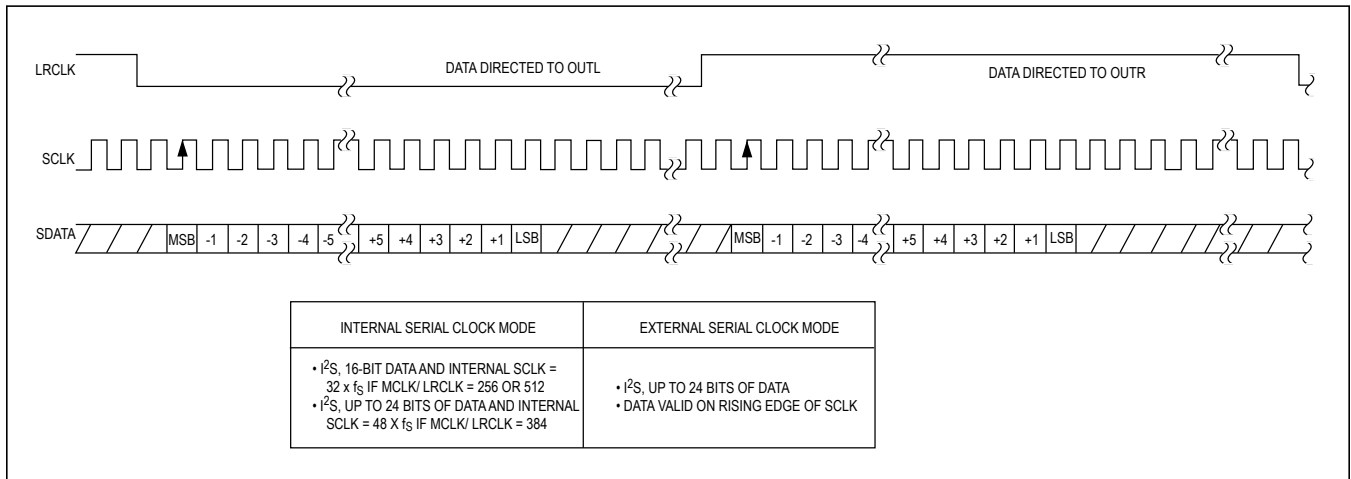

Figure 4. MAX5556 Data Format Timing
- Note 6:** In external SCLK mode, LRCLK duty cycles are not limited, provided all data formatting requirements are met. See Figure 4.
- Note 8:** The SCLK/LRCLK ratio can be set to 32, 48, or 64, depending on the MCLK/LRCLK ratio selected. See Figure 4.
The serial interface strobcs data (SDATA) in on the rising edge of SCLK, MSB first. The MAX5556 supports four different data formats, as detailed in Figure 4.
LRCLK is the left/right clock input signal for the 3-wire interface and sets the sample frequency (f_S). On the MAX5556, drive LRCLK low to direct data to OUTL or LRCLK high to direct data to OUTR (Figure 4). The MAX5556 accepts data at LRCLK audio sample rates from 2kHz to 50kHz.
The MAX5556 accepts data with an I²S left-justified data format, accepting 16 or 24 bits of data. SDATA accepts data in two's complement format with the MSB first. The MSB is valid on the second SCLK rising edge after LRCLK transitions low to high or high to low (Figure 4). Drive LRCLK low to direct data to OUTL. Drive LRCLK high to direct data to OUTR. The number of SCLK pulses with LRCLK high or low determines the number of bits transferred per sample. If fewer than 24 bits of data are written, the remaining LSBs are set to 0. If more than 24 bits are written, any bits after the LSB are ignored.